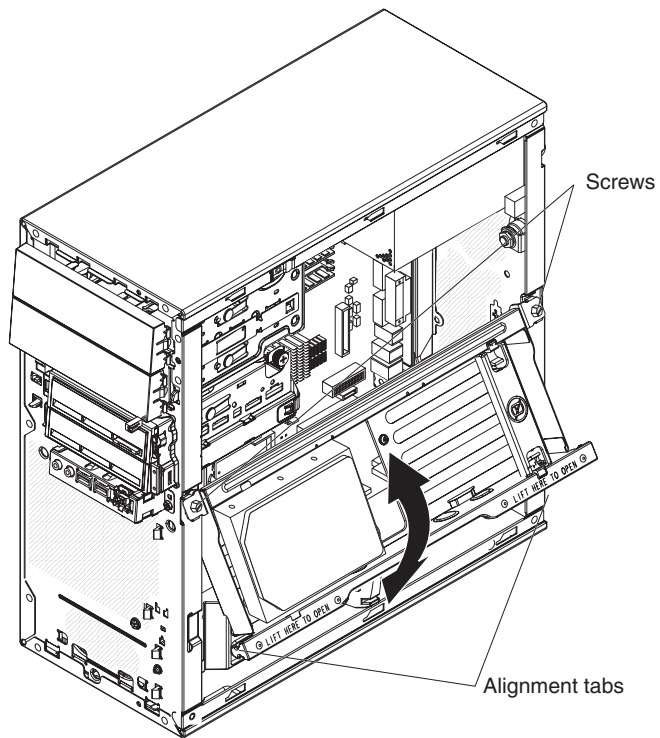

Figure 29. Removing the hard disk drive bracket
5. Remove the two screws that fasten the top edge of the hard disk drive bracket to the chassis (see Figure 29 on page 96).